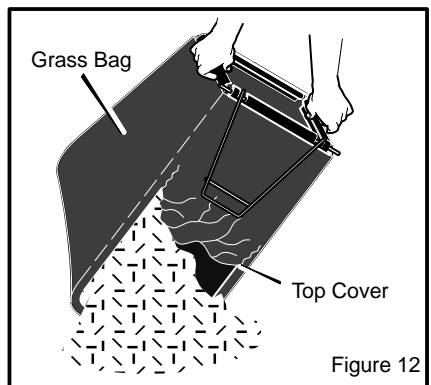

Figure 12
3. Open the **top cover** (Figure 12). Empty the grass from the **grass bag**.